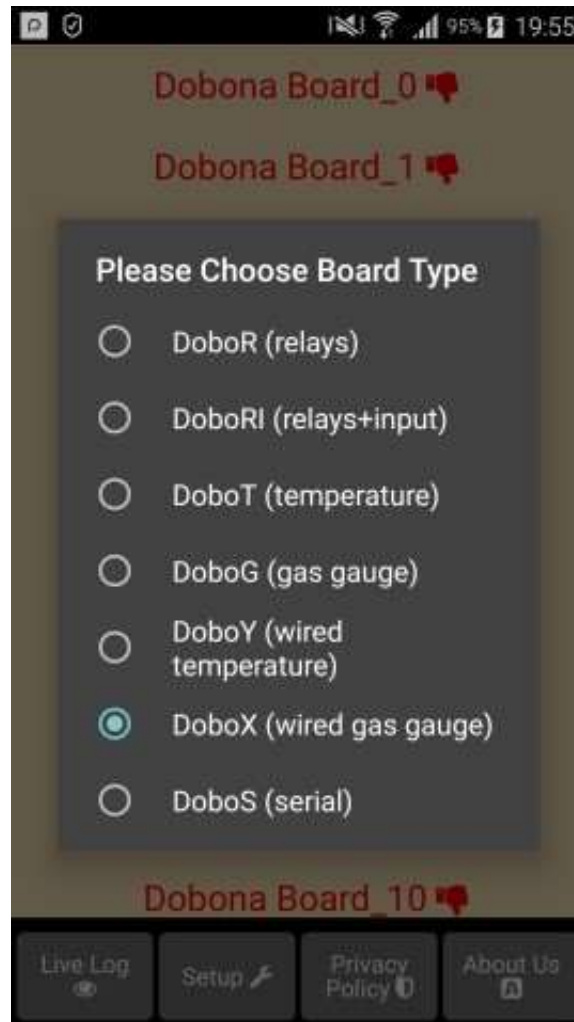

Fig 3.
6. IN ORDER TO SETUP A BOARD, THE SHOULD PRESS ANY OF THE RED LINES. SUPPOSING HE PRESSES ON THE FIRST LINE (Dobona Board#0), AFTER WHICH HE IS PRESENTED WITH A POPUP SCREEN TO CHOOSE THE BOARD TYPE (Fig.3). SINCE WE ARE INTERESTED IN DOBOX BOARD ONLY IN THIS PDF, THE USER SHOULD PRESS THE DoboX (wired gauge).